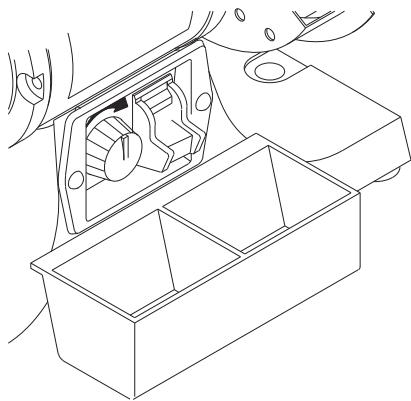

Figure 12
1. The power switch must be in the "OFF" position (see Figure 12) and the variable speed switch must be turned to its slowest setting by being turned all the way to the left until solid resistance is felt.